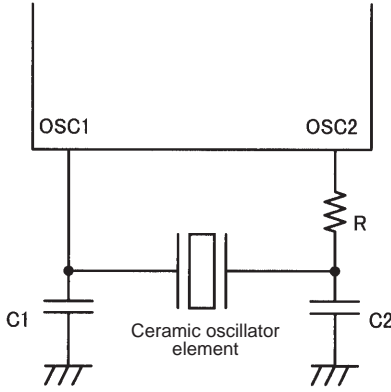

Figure 3 Ceramic Oscillator Circuit
| Ceramic oscillator *4                    |                                     | Figure 3   |                            |  | See table 1.       |                      |          |
|                           |                              | IDDOP (2)           | • Figure 3, 4 MHz, divide-by-three circuit used  | V DD   |                       | 1.5                 | 5                   |      |
| Ceramic oscillator        |                              | IDDOP (3)           | • Figure 3, 4 MHz, divide-by-four circuit used   | V DD   |                       | 1.5                 | 4                   |      |
|                           |                              | IDDOP (4)           | • Figure 3, 400 kHz  | V DD   |                       | 1.0                 | 2.5                 |      |
|                           |                              | IDDOP (5)           | • Figure 3, 800 kHz  | V DD   |                       | 1.5                 | 4                   |      |
| Ceramic oscillatorOscillator frequency    | $f_{\text{CFOSC}}^{*7}$ | <ul style="list-style-type: none"> <li>Figure 3, <math>f_o = 400</math> kHz</li> <li>Figure 3, <math>f_o = 800</math> kHz</li> <li>Figure 3, <math>f_o = 1</math> MHz</li> <li>Figure 3, <math>f_o = 4</math> MHz, with the divide-by-three or divide-by-four circuit used.</li> </ul>        | OSC1, OSC2OSC1, OSC2OSC1, OSC2OSC1, OSC2 | 3927849803920 | 40080010004000   | 40881610204080 | kHz           |
- Notes: 1. Allowed up to the amplitude generated when the oscillator shown in figure 3 is used with the recommended circuit constants and driven by the IC.